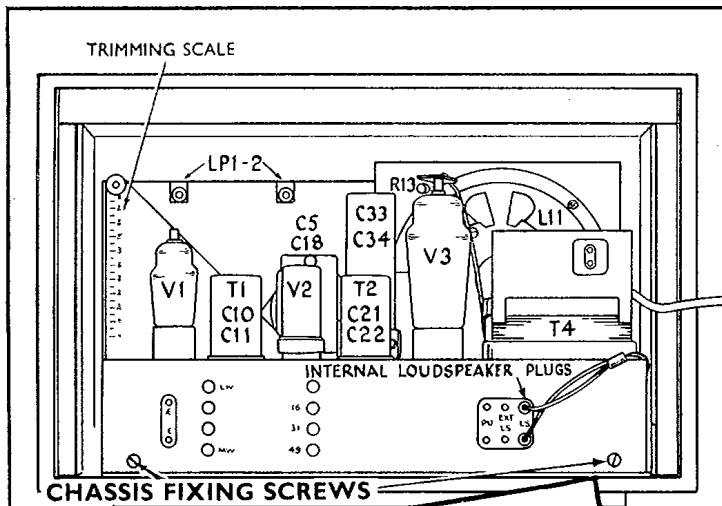

FIG. 1
- 1 The Pye Quick Release (Patent No. 601,920) permits the removal of chassis without turning the cabinet over. See Fig. 1.
- 4 A 100 division Trimming Scale is printed on the back of the scale reflector plate for use when trimming the receiver outside the cabinet. See Fig. 1.